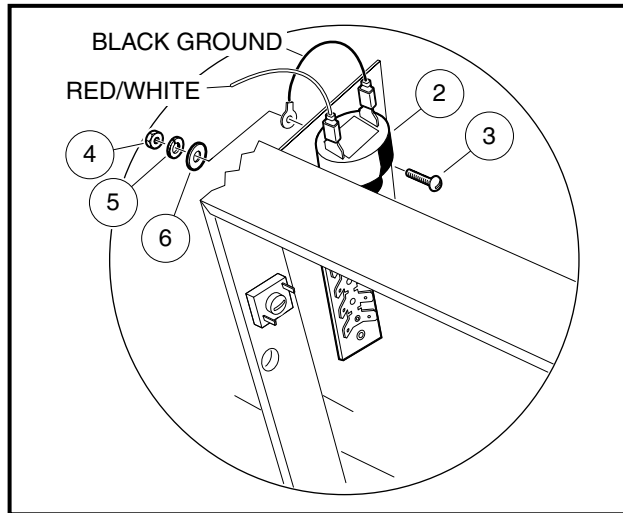

Figure 12b-22 Front Reverse Warning Buzzer
1. Install the two 4-40 x 3/4-inch machine screws (3) through the buzzer (2) bracket tab and through the frame.
2. Attach the flat washers (6), lock washers (5), and secure with nuts (4). Tighten to 14 in-lb (1.6 N·m) (**Figure 12b-22, Page 12b-22**).